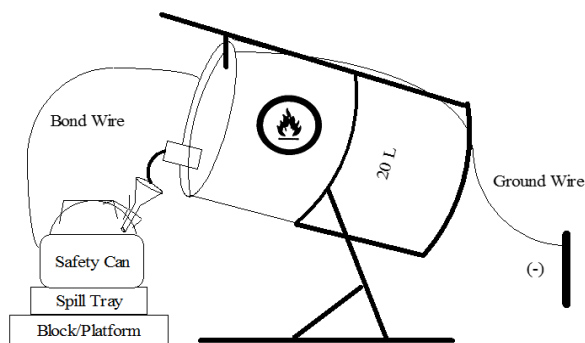

Figure 2
- Using arm of pail rack, slowly rotate can down to pouring position. (See Fig. 2).